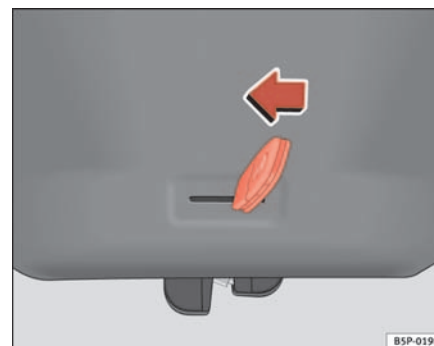

Fig. 69 Tailgate: emergency opening
- Insert the key bit in the groove and unlock the locking system, turning the key from right to left, as shown by the arrow ⇒ fig. 69. ■